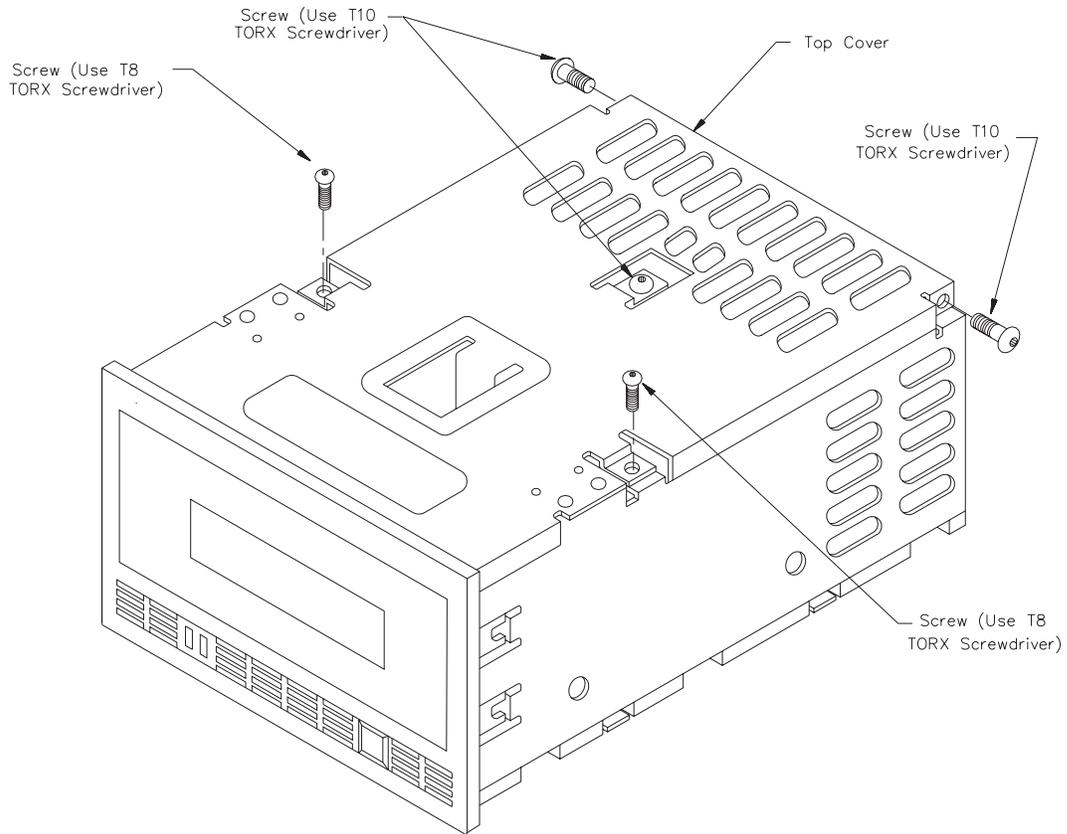

Figure 4-2
4. Secure the rear of the cover through the card retainers and through the approximate center of the top cover to the deck hanger using the three larger screws (T10) (refer to Figure 4-2 for the locations of these screws). Tighten to 5.0 inch-pounds of torque.
5. Secure the top of the cover at the left and right edges using the two smaller screws (T8) (refer to Figure 4-2 for the locations of these screws). Tighten to 3.4 inch-pounds of torque.